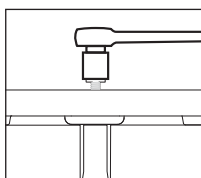

Figure 7
6. Secure the Hex Head Bolt tightly using a socket wrench. (Figure 7)